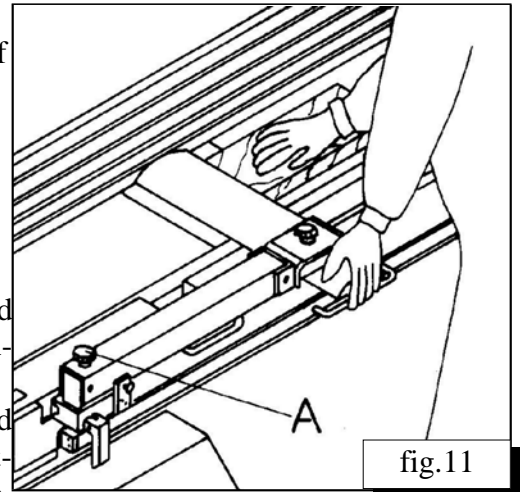

fig.11
Preparation for smoothing (fig. 11)
- .. The piece is pushed by the right hand a little some below the guard of the cutting shaft; the guard should lay on the piece (fig. 11).